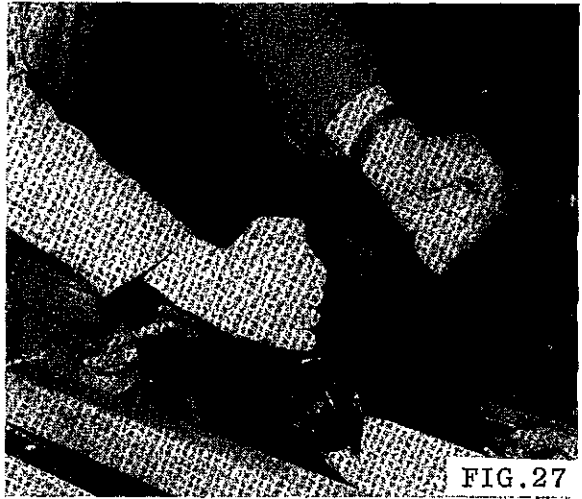

FIG. 27
- 6 Lock saw securely in position with arbor nut (left hand thread) as shown in FIG.27.